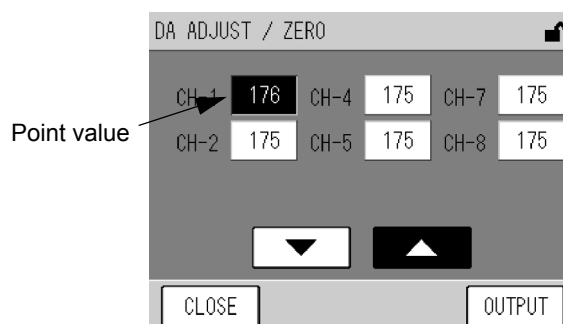

Fig. 61 DA ADJUST/ ZERO screen
- [ZERO]: Displays the DA ADJUST/ ZERO screen for zero calibration of analog output (Fig. 61 on page 47).